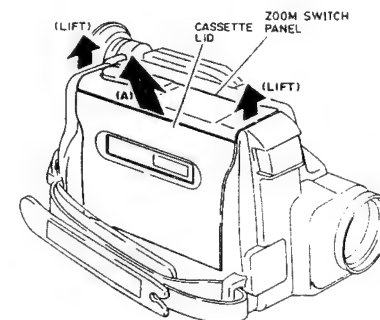

Fig. 2-15
- 3 Lift the zoom switch panel, remove the cassette lid in the direction of arrow (A). (See Fig. 2-15)
- 9) Remove four (4) screws holding the right case. (See Fig. 2-15)
- 10) Lift the zoom switch panel, remove the right case in the direction of arrow (A).